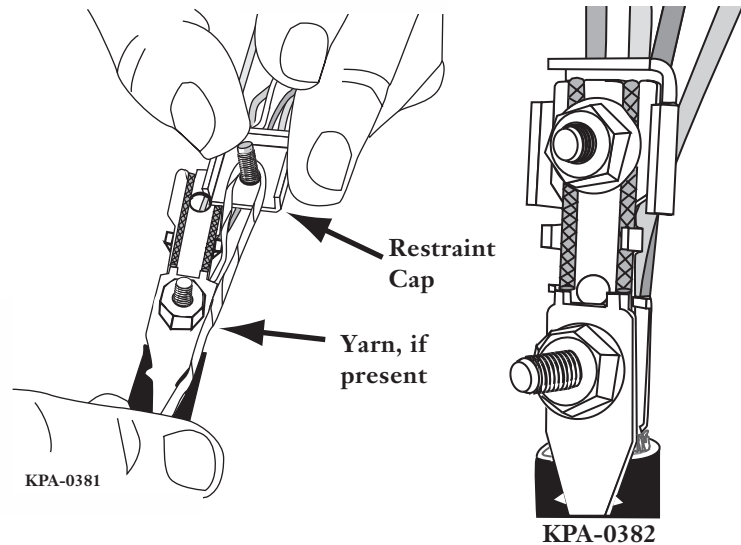

Figure 8 — Metallic Strength Member Strain-relief
- Step 3** Install restraint cap as shown in Figure 8.